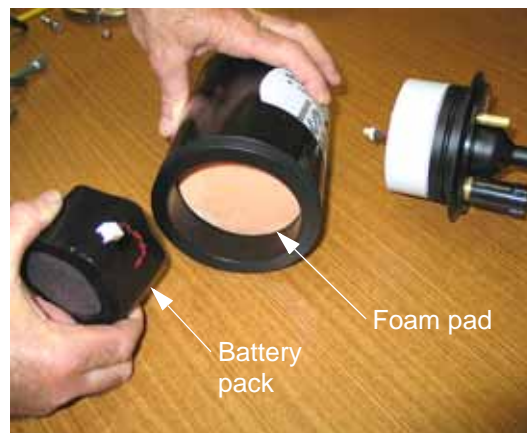

Figure 7-8: Inserting a Fresh Battery Pack
- 2 Install a fresh battery pack into the housing, being sure the foam pad is inserted first as shown in Figure 7-8.